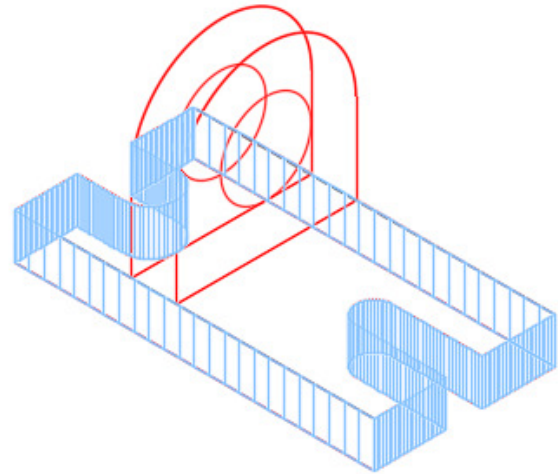

Figure Step 8
Step 8 Repeat the RULESURF command and insert surfaces all around the edge of the model. (Figure Step 8)